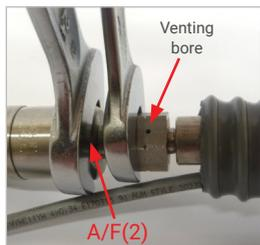

Figure 12
- ▶ If there is a venting bore on the fitting of the hose (*Figure 12*), this must not be covered. Here, the pressure must be able to escape unimpeded when loosening. Keep the venting bore away from your body and your face. Keep your hands and fingers away from the bore.
- ▶ Loosen the fitting of the filling hose on port "B2" of the receptacle insert of the breakaway coupling. To do so, hold against the wrench size A/F(2) of the receptacle insert (*Figure 12*).
- Caution:** If there is a venting bore on the fitting of the hose, it must not be covered in the process (*Figure 12*).